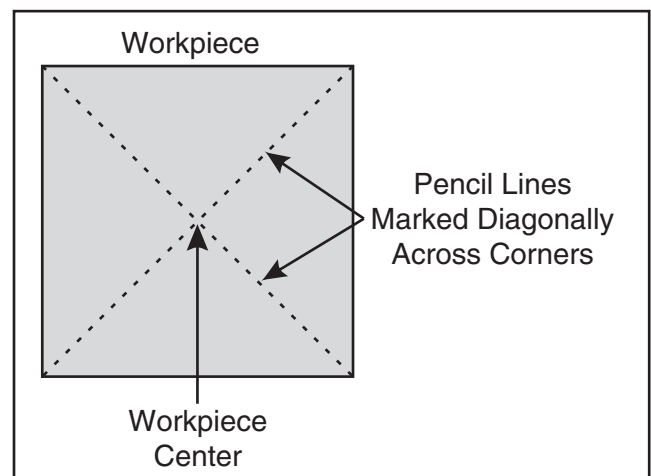

Figure 11. Workpiece marked diagonally across corners to determine the center.
2. Mark both ends of your workpiece by drawing diagonal lines from corner to corner. The intersection point of these lines will show you the center of your workpiece. See **Figure 11** for details.